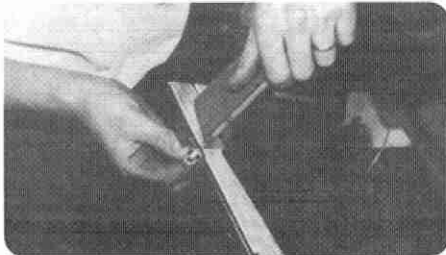

Figure 14
14. Install new auxiliary temperature door to the center support panel. This is done by putting the door shaft with the flat end through the 1/4" hole drilled in Step 8 and attaching the new bell crank to it by tapping it on (Figure 14).